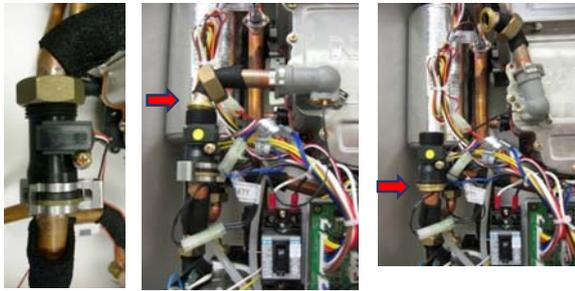

Fig.1 Fig.2
- Remove the brass nut connected to the top of the flow sensor (Fig.1 on next page);